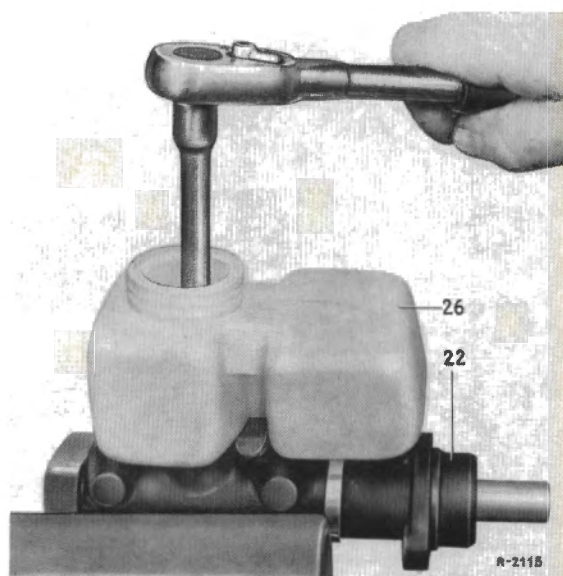

Fig. 42-3a/18
5. Remove the piston stop ring (5) from the housing, slightly depressing the piston with the drift in the process. Then take the piston out of the housing together with the piston stop washer (4), the two vacuum seals (6), the spacer ring (7) and the support ring (8) (Figs. 42-3a/17 and 42-3a/21).